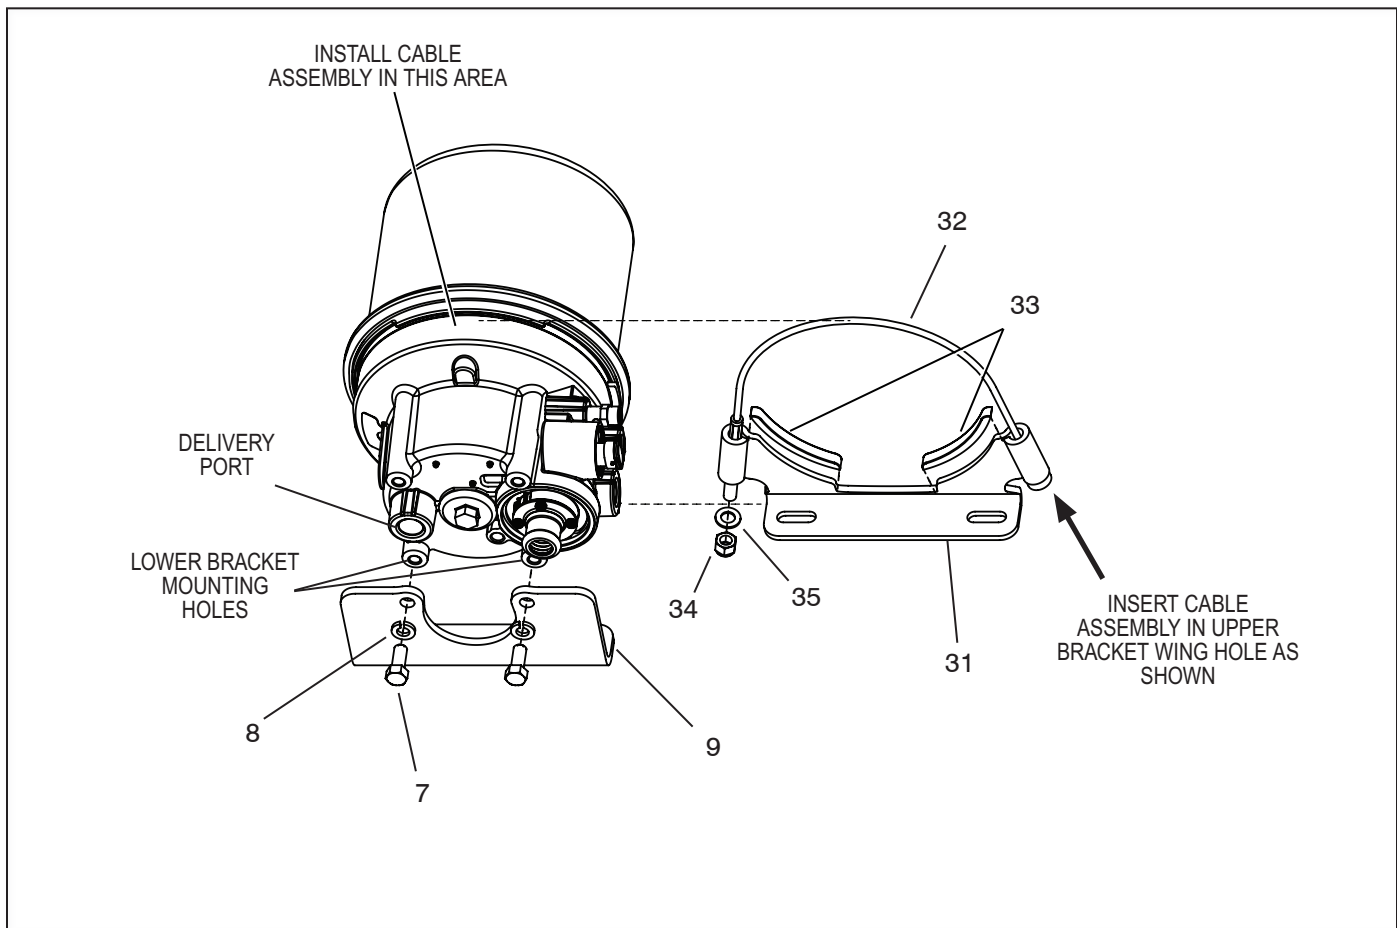

FIGURE 10 - BENDIX® AD-IP® AIR DRYER CABLE BRACKET INSTALLATION
Reference Figure 10
There are two types of upper mounting brackets; saddle type (shown in Figure 8), and cable type (shown in Figure 10). Refer to the appropriate figure for the type of air dryer being serviced.
2. Saddle Bracket: Assemble the mounting strap (4) and saddle bracket (5) as illustrated, by utilizing the 5/16" cap screw (1) and sleeve nut (3) provided. Place the upper bracket strap in the end cover channel provided for it, then install the saddle bracket and secure the strap to the saddle bracket using the cap screw (1) and sleeve nut (3) provided. Install, but do not tighten the cap screw at this time. Orient the strap and saddle bracket (5) so that it is in a flat plane with the lower bracket. Torque the 5/16" nut to 60-100 in-lbs to tighten strap onto the shell.
Cable Bracket: Press the isolators (33) onto the upper bracket (31) as shown in Figure 10. Place the air dryer onto the upper bracket (31). Insert the cable assembly (32) through the wing hole of the upper bracket (31), around the air dryer and then again through the bracket (31) on the opposite wing hole. Note: some applications may require the button end of the cable be placed on the opposite wing.